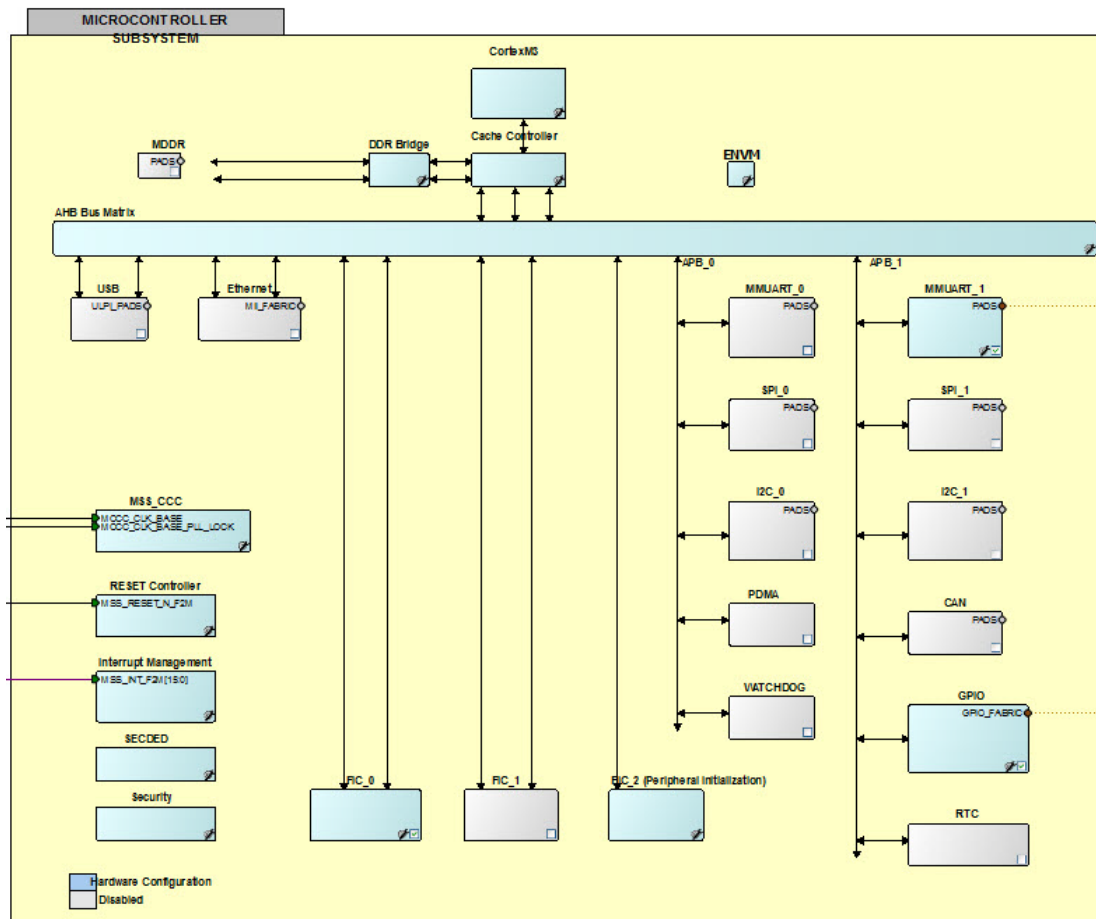

Figure 2-4 • SmartDesign MSS in the SmartDesign Canvas
3. Double-click the **MSS CCC** block to configure the MSS CCC (Figure 2-4).